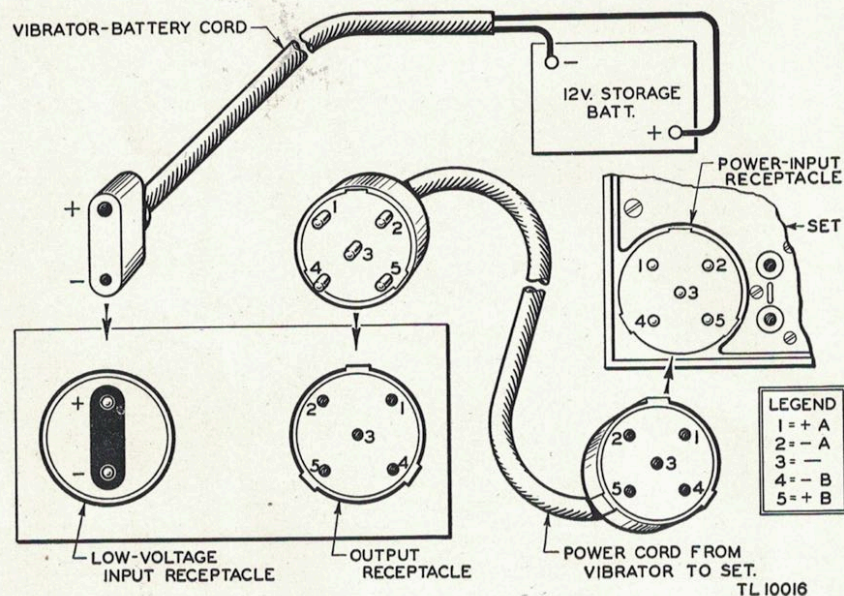

Figure 4. Cording diagram for use of vibrator supply with German radio set **Torn. E. b.**
(2) The 12 volts supplied is reduced to the proper value for the tube filaments by a series-dropping resistor contained in the vibrator power supply. The filament voltage is held to a steady value by an **Eisenwasserstoffwiderstände** (ballast tube) in series with the tube filaments and the dropping resistor. The filament circuit is protected by a **Sicherungen 2 amp.** (fuse, 2 amp).
(3) The cording for use of the vibrator supply is shown in figure 4.
- (1) Install and connect **Umformersatz EWc** to the storage battery and the set, as shown in figure 4.
- (2) Connect vehicular antenna to **A** (antenna) jack on set.
- (3) Connect a wire between vehicle chassis and **G** (counterpoise) jack of set.
- (4) Plug the headset into any of the jacks marked **Fernhörer** (head-phones). Align plug with white line. Any high-impedance headset is satisfactory. The set is now installed and ready for operation.